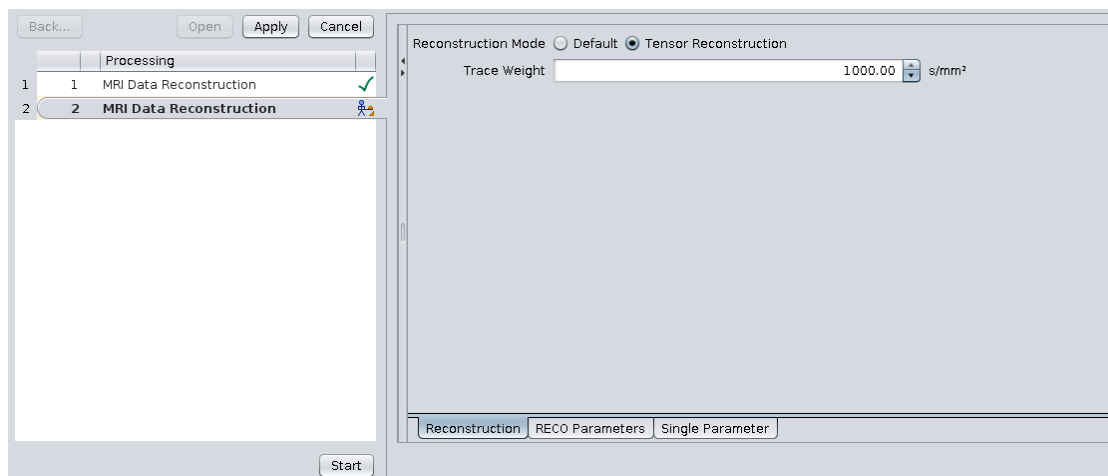

Figure 1.164: Tensor Reconstruction Processing Platform
4. On the Reconstruction Card select `Tensor Reconstruction` (see [Figure 1.164 \[198\]](#)).